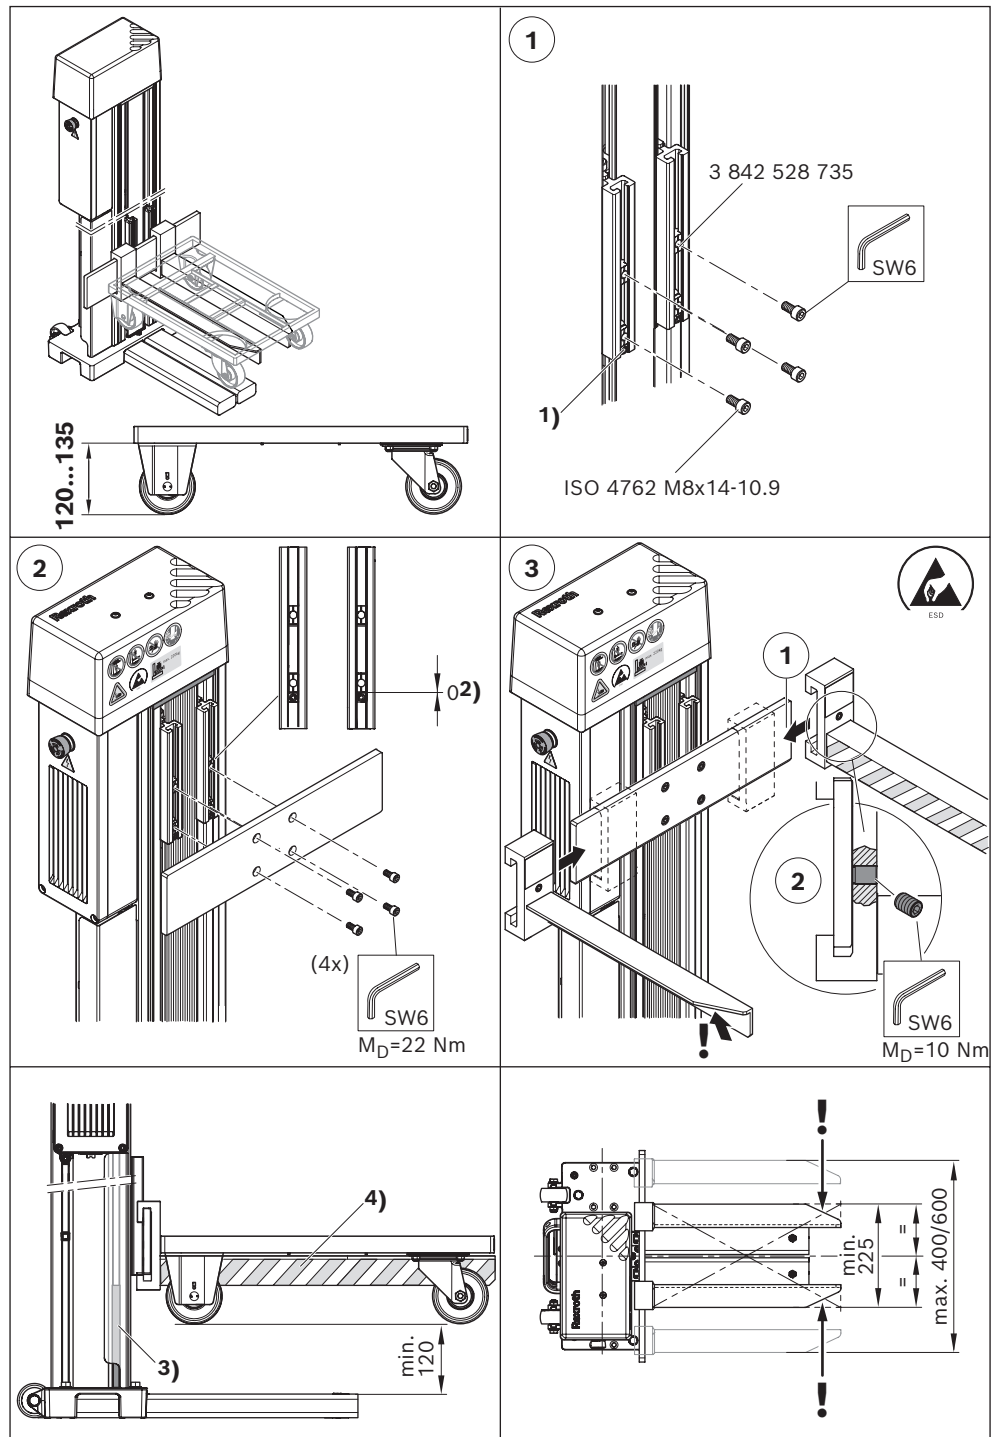

Fig. 18: Installation of attachment plate, forks for dollies with ≥ 120 mm ground clearance
- Dolly with 135 mm ground clearance (see Fig. 18)